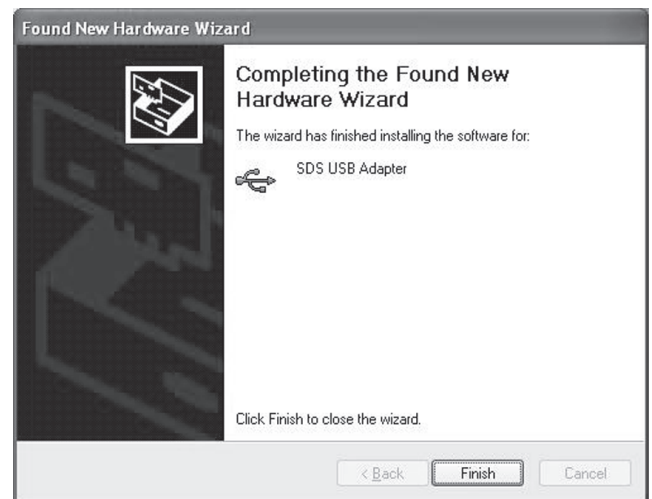

Fig.28
6. The Driver Installation Completion window (Fig.28) appears.